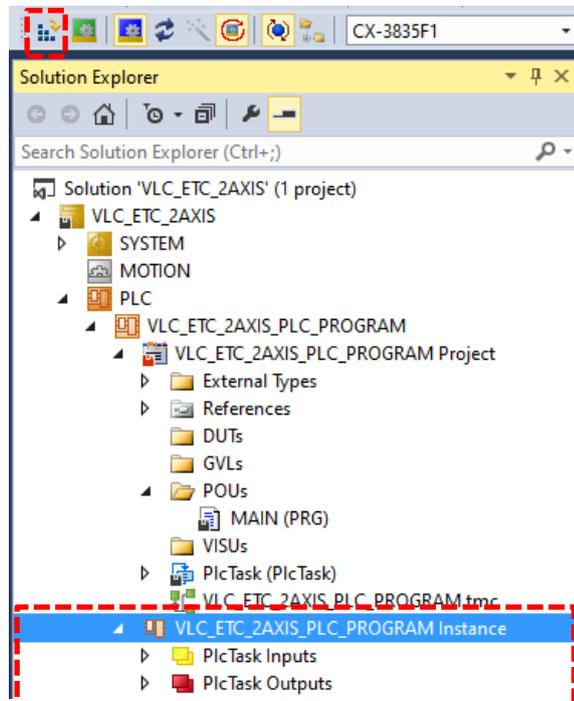
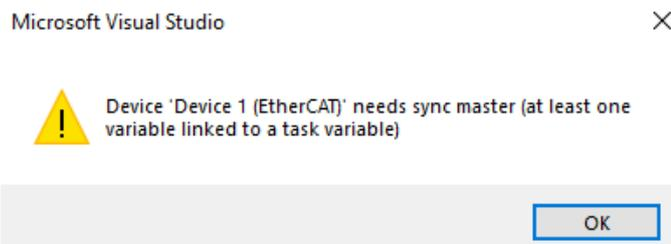

Figure 3.22.
Figure 3.23.
- Click on the 'Activate Configuration' button on the upper left rectangle of Figure 3.22. This will compile the PLC program and settings. PLC program syntax errors will be reported if they do exist. Otherwise, if the PLC program has never been compiled previously, a window depicted in Figure 3.23 appears, meaning that the variables defined in the program have to be linked to the cyclic servo objects of the VLC-ETC.